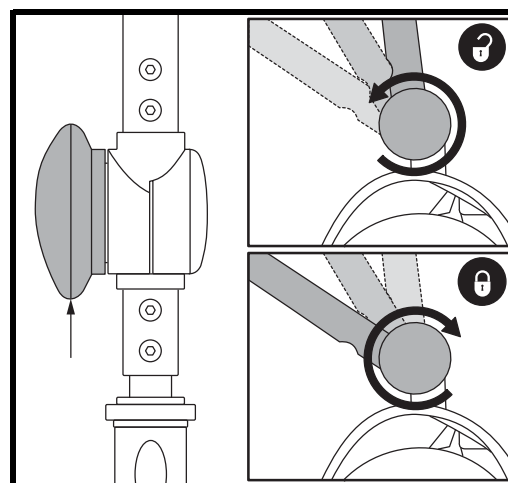

Figure 17. Tiller Adjustment Knob
TILLER ANGLE ADJUSTMENT (See figure 17)
1. With the seat and battery pack removed (see Disassembly Procedures on previous page), lower the tiller and tighten the tiller adjustment knob. **See figure 17.**
3. Raise the tiller and fully tighten the tiller adjustment knob. **See figure 17.**